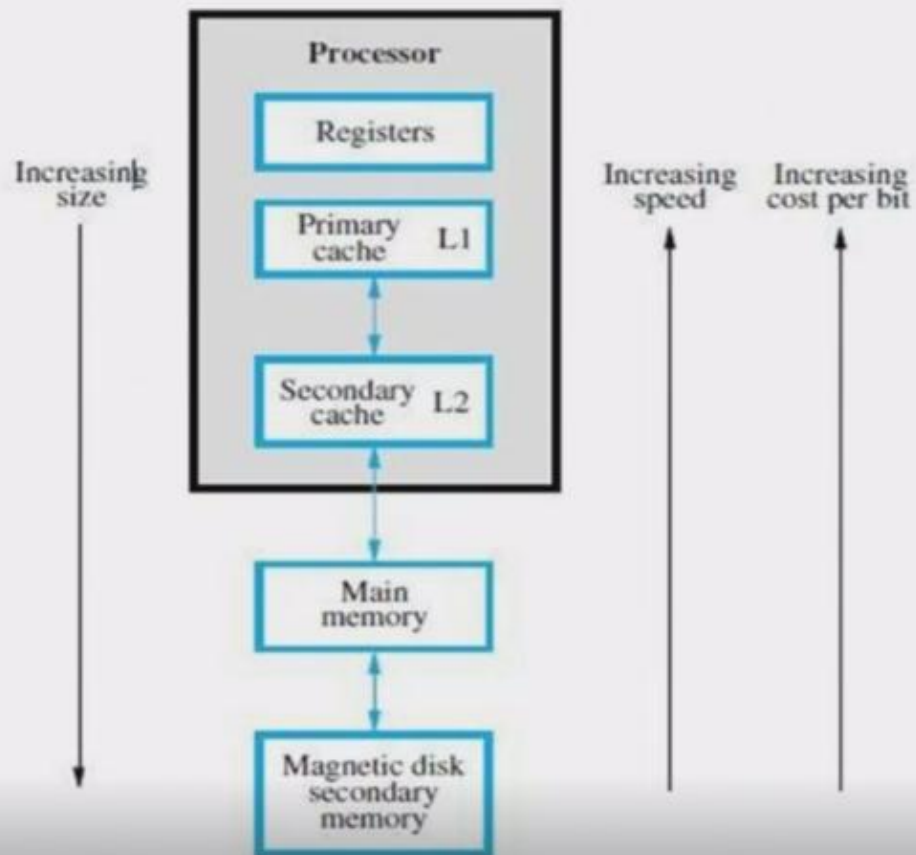

Figure 8.14 Memory hierarchy.
- The main-memory can be built with DRAM (Figure 8.14)